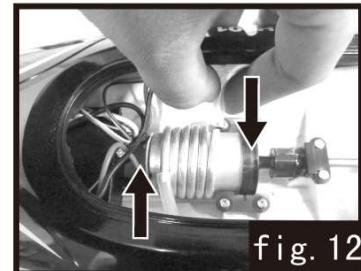

fig. 12
- 12.To reconnect the cooling rubbes hose(see fig.12)